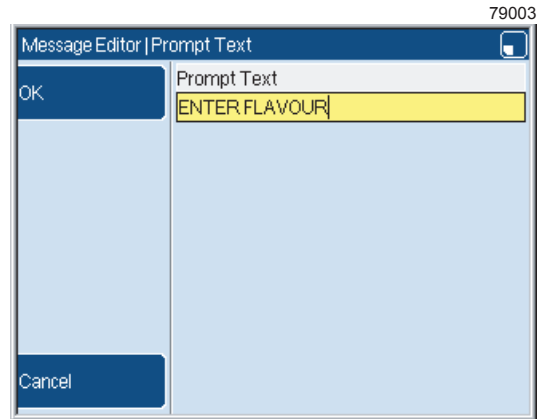

Figure 5. Prompt Text page
- 5 Select the **Prompt Text** option and enter the prompt text "ENTER FLAVOUR", as shown in Figure 5.